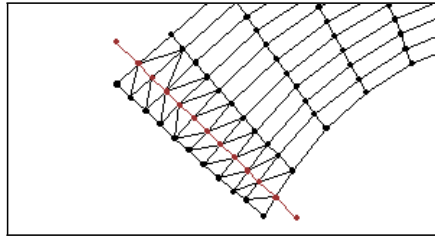

Figure 17 The breakline has been inserted.
3. Select *Nodestrings / Force Breaklines*. The elements will be split along the nodestring, as shown in Figure 17.